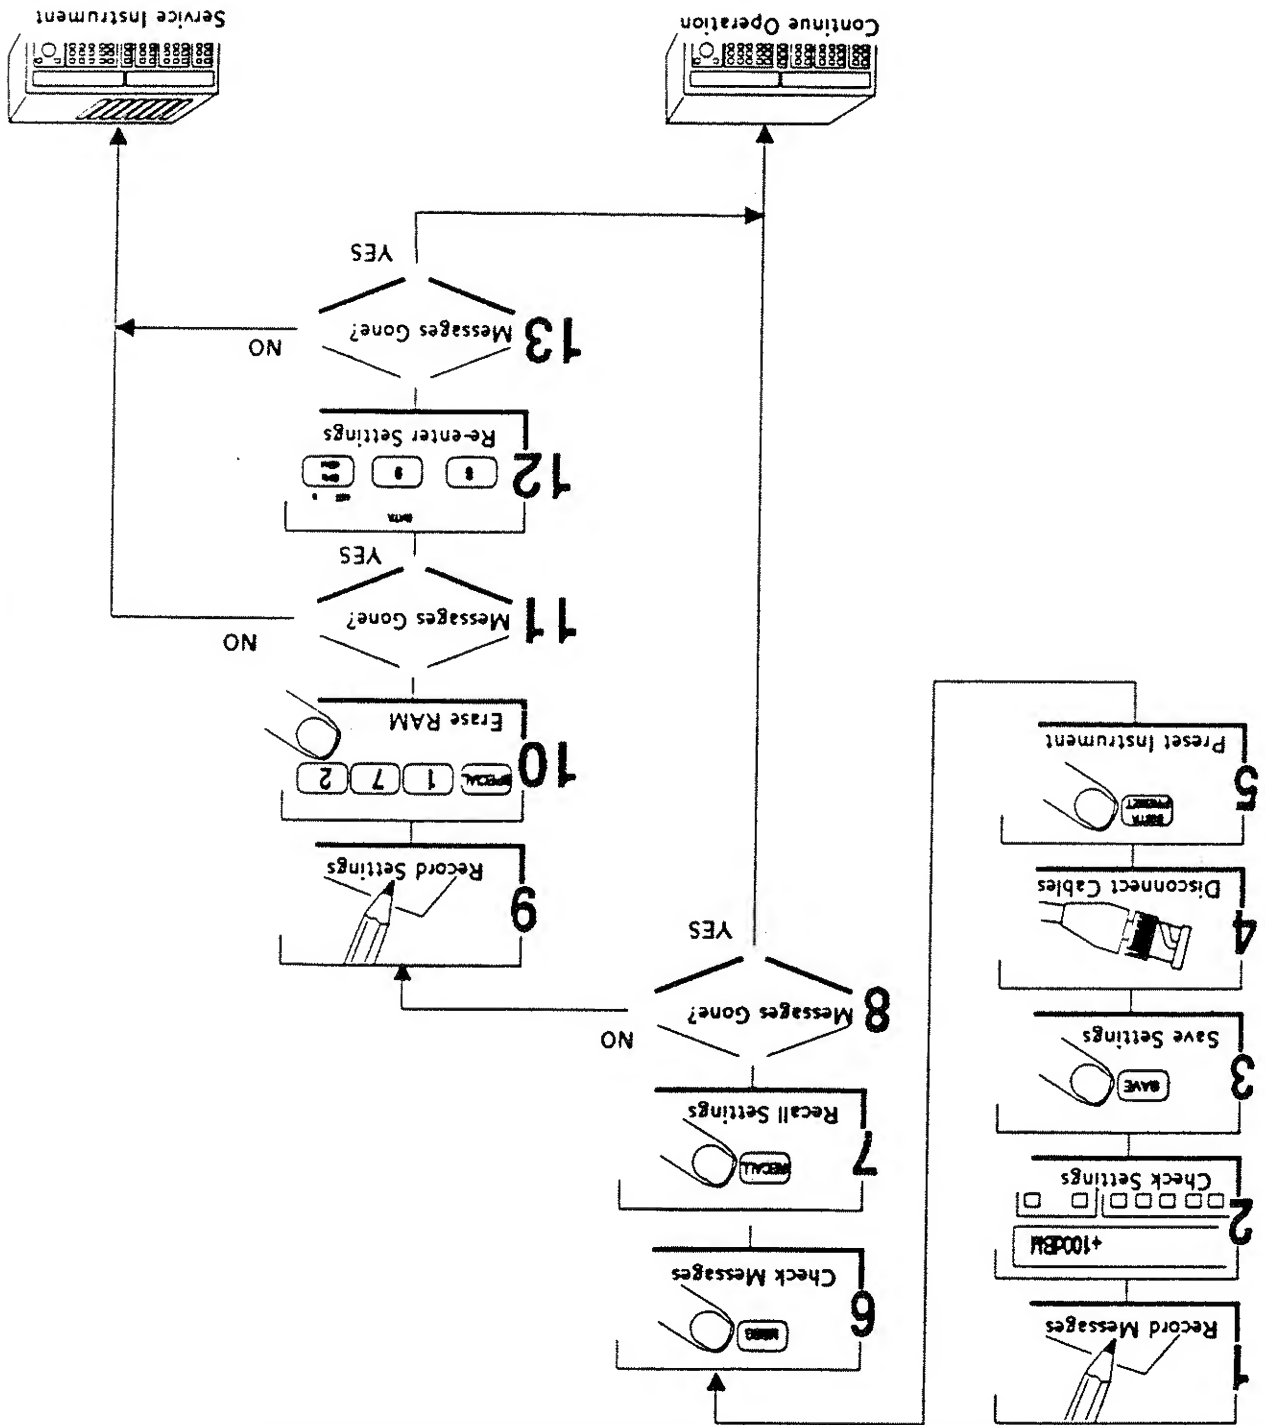

Figure D-1. Corrective Action for Error Messages
Hardware Failure 1	A communications discriminator failure has been detected at power up, or detected as a result of a self-calibration or self-test. Refer to figure D-1 for corrective action.
Hardware Failure 2	A VCO failure has been detected at power up, or detected as a result of a self-calibration or self-test. Refer to figure D-1 for corrective action.
Hardware Failure 3	A Fractional-N failure has been detected at power up, or detected as a result of a self-calibration or self-test. Refer to figure D-1 for corrective action.
Hardware Failure 4	A modulation distribution failure has been detected at power up, or detected as a result of a self-calibration or self-test. Refer to figure D-1 for corrective action.
Hardware Failure 5	An ALC failure has been detected at power up, or detected as a result of a self-calibration or self-test. Refer to figure D-1 for corrective action.
Hardware Failure 6	An attenuator failure has been detected at power up, or detected as a result of a self-calibration or self-test. Refer to figure D-1 for corrective action.
Hardware Failure 7	An audio source failure has been detected at power up, or detected as a result of a self-calibration or self-test. Refer to figure D-1 for corrective action.
Hardware Failure 8	A reference failure has been detected at power up, or detected as a result of a self-calibration or self-test. Refer to figure D-1 for corrective action.
Hardware Failure 9	A doubler failure has been detected at power up, or detected as a result of a self-calibration or self-test. Refer to figure D-1 for corrective action.
Hardware Failure 13	A front panel failure has been detected at power up, or detected as a result of a self-calibration or self-test. Refer to figure D-1 for corrective action.
Hardware Failure 14	A power supply failure has been detected at power up, or detected as a result of a self-calibration or self-test. Refer to figure D-1 for corrective action.
Hardware Failure 15	An I/O board failure has been detected at power up, or detected as a result of a self-calibration or self-test. Refer to figure D-1 for corrective action.
Hardware Failure 16	A controller failure has been detected at power up, or detected as a result of a self-calibration or self-test. Refer to figure D-1 for corrective action.
Hardware Failure 18	A frequency counter failure has been detected at power up. Refer to figure D-1 for corrective action.
Hardware Failure 21	A communications discriminator out-of-lock (OOL) condition exists. Refer to figure D-1 for corrective action.
Hardware Failure 23	A Fractional-N (NF) phase-locked-loop (PLL) out-of-lock (OOL) condition exists. Refer to figure D-1 for corrective action.
Hardware Failure 24	A VCO frequency-locked-loop (FLL) out-of-lock (OOL) condition exists. Refer to figure D-1 for corrective action.
Hardware Failure 25	A VCO phase-locked-loop (PLL) out-of-lock (OOL) condition exists. Refer to figure D-1 for corrective action.
Hardware Failure 26	A fast controller failure has been detected at power up, or detected as a result of a self-calibration or self-test. Refer to figure D-1 for corrective action.
Hardware Failure 27	An audio source out-of-lock (OOL) condition exists. Refer to figure D-1 for corrective action.
Hardware Failure 28	A reference out-of-lock (OOL) condition exists. Refer to figure D-1 for corrective action.
Hardware Failure 31	A ROM failure has been detected at power up, or detected as a result of a self-calibration or self-test. Refer to figure D-1 for corrective action.
Hardware Failure 32	A ROM failure has been detected at power up, or detected as a result of a self-calibration or self-test. Refer to figure D-1 for corrective action.
Hardware Failure 33	A ROM failure has been detected at power up, or detected as a result of a self-calibration or self-test. Refer to figure D-1 for corrective action.
Hardware Failure 34	A ROM failure has been detected at power up, or detected as a result of a self-calibration or self-test. Refer to figure D-1 for corrective action.
Hardware Failure 35	A voltmeter failure has been detected at power up, or detected as a result of a self-calibration or self-test. Refer to figure D-1 for corrective action.
Hardware Failure 36	A RAM failure has been detected at power up, or detected as a result of a self-calibration or self-test. Refer to figure D-1 for corrective action.
Calibration Error 1	A condition occurred where invalid level calibration data resides in either the Output or the Attenuator modules. Follow the external calibration procedures outlined in figure D-1.
Calibration Error 2	At some time during the calibration or self-test, a condition occurred where some hardware was unable to be calibrated. Fix the hardware and re-calibrate. Refer to figure D-1 for corrective action. This error message will always be accompanied by other error messages.
User Memory Cleared	A memory failure has been detected, all battery backup memory is lost. Refer to figure D-1 for corrective action.